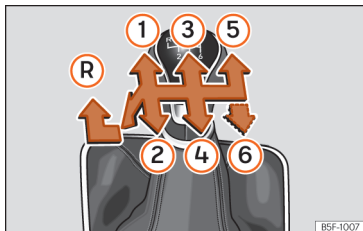

Fig. 51 Gear shift pattern of a 5 or 6-speed manual gearbox.
The position of the gears is indicated on the gearbox lever » » **Fig. 51**.
- With the gearbox lever in neutral, push it downwards, move it to the left as far as it will go and then forwards to select reverse » » **Fig. 51** (R).